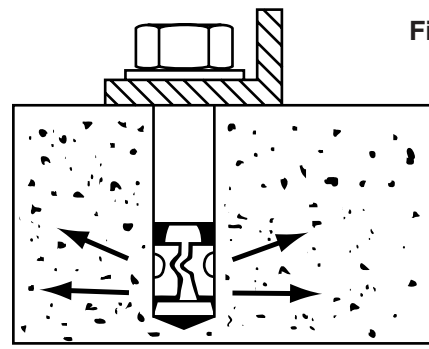

Figure 5
5. Insert the anchors through the four holes in the mounting base and into the drilled holes in the concrete. Drive the anchors into the holes until the washer is flush with the mounting base. See figure 5.